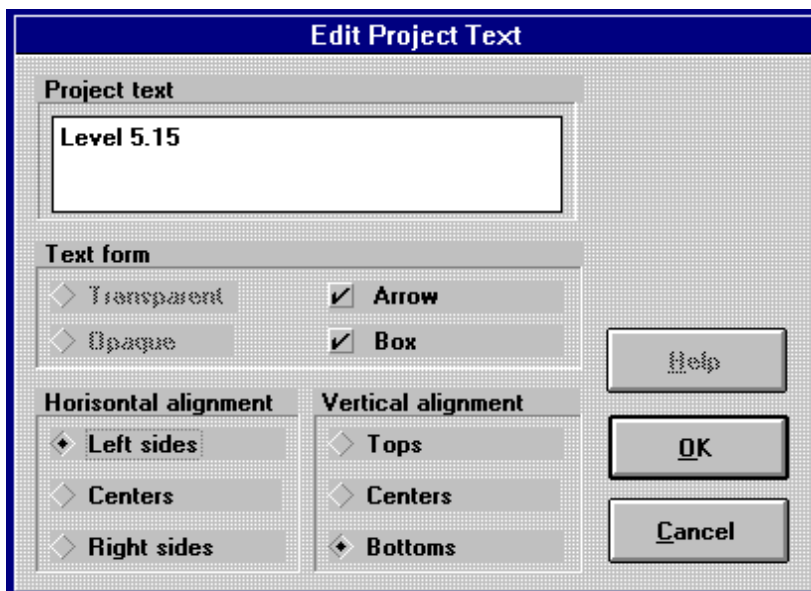

Figure 6.42
3. **Write the desired text** in the project text field and define the type and placement of the text and the line/arrow. See the Edit Project Text dialog box in figure 6.42 and the description below.